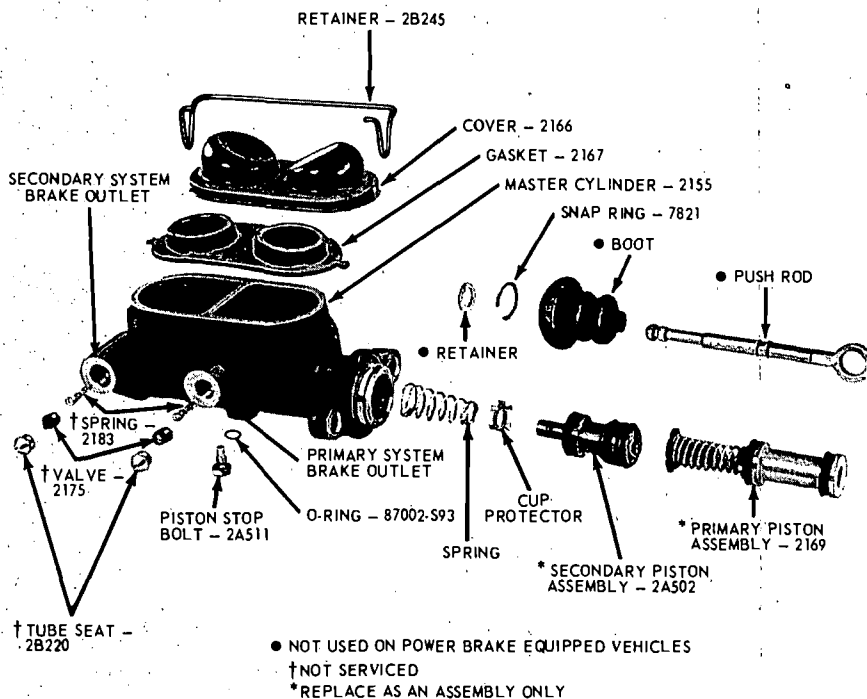

FIG. 40—Dual Master Cylinder Disassembled—Except Disc Brakes
2. Remove the secondary piston stop bolt from the bottom of the cylinder (Figs. 40 and 41).
8. Install the bleed screw (if so equipped). Install the gasket (diaphragm) in the master cylinder filler cover. Position the gasket as shown in Figs. 40 and 41. **Make sure the gasket is securely seated.**